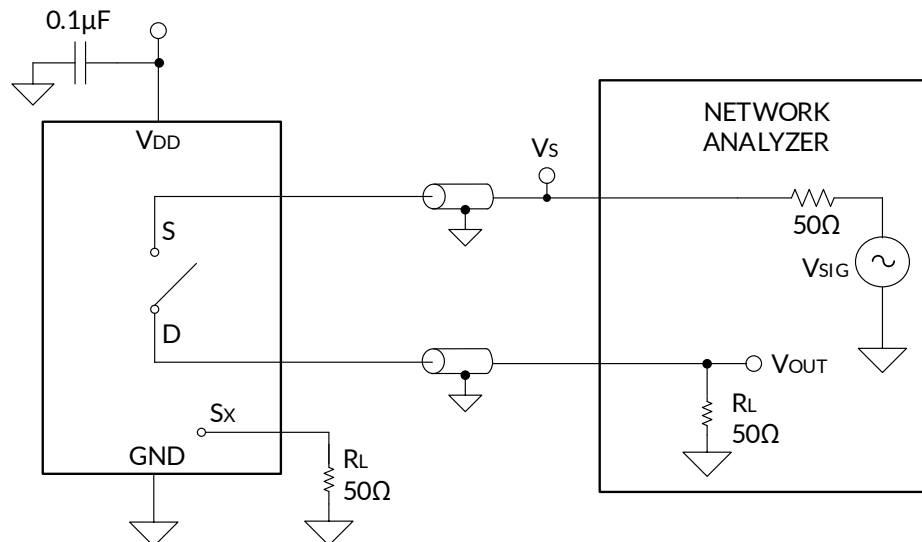

Figure 18. Off Isolation Measurement Setup
Off isolation is defined as the ratio of the signal at the drain pin (D) of the device when a signal is applied to the source pin (S_x) of an off-channel. Figure 18 shows the setup used to measure, and the equation to compute off isolation.